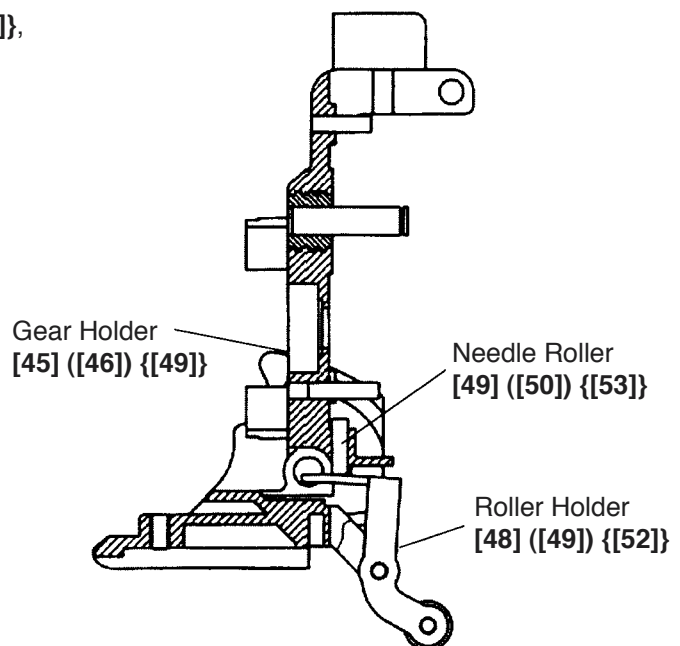

Fig. 17
- (3) Before assembling the Roller Holder [48] ([49]) {[52]}, be sure to insert the Needle Roller [49] ([50]) {[53]} into the designated position of the Gear Holder [45] ([46]) {[49]} because the needle roller cannot be inserted after mounting the roller holder (Fig. 17).